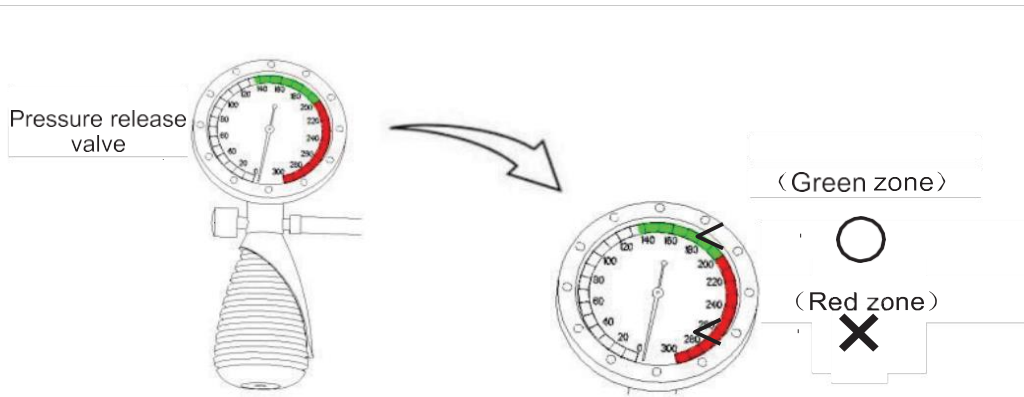

Fig 7.6
- Only the duct of leakage tester and the pressure compensation cap can be immersed. (as shown in Fig7.6). Immersion of other components of the leakage tester may lead to its damage.
- The pressure shall not exceed 200 mmHg. If the pressure increases too much, it might damage the endoscope. Press the pressure release valve to discharge the air (as shown in Fig 7.6).